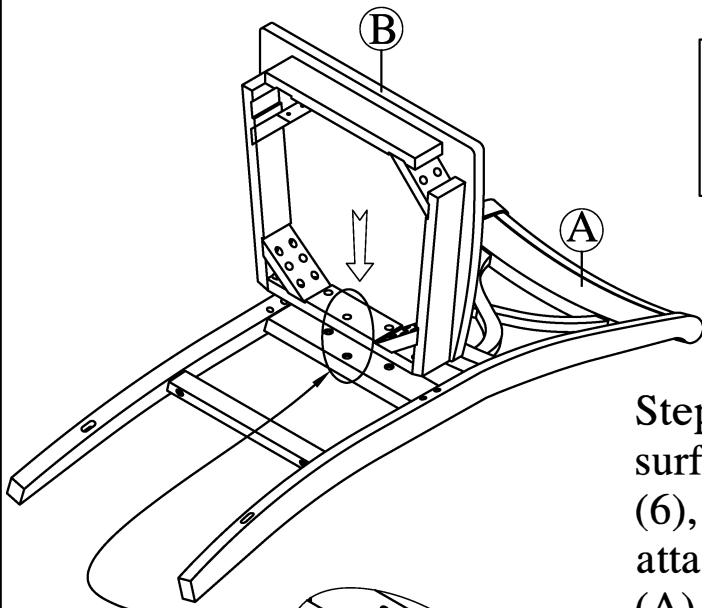

Fig.1
Step 1: Lay the Backrest (A) on a flat soft surface, use Short Bolt (3), Spring Washer (6), Flat Washer (7) and Allen Key (1) to attached the Wooden Seat (B) to Backrest (A) as shown in Fig. 1.